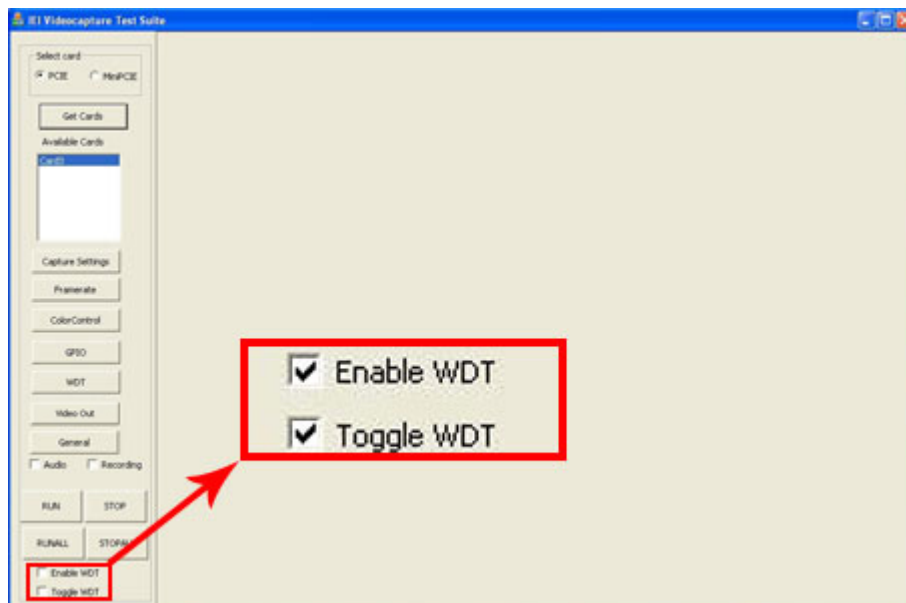

Figure 6-28: WDT Options for Multiple Cards
Step 11: In the main interface, check the Audio checkbox to capture audio. Check the Recording checkbox to record the video and save in AVI format (see **Figure 6-28**).
Step 13: To capture all channels from multiple capture cards, click the RUNALL button on the test suite interface (see **Figure 6-28**). Click the STOPALL button to stop capturing all channels.
To enable watchdog timer for multiple capture cards, check the checkboxes of the Enable WDT and/or Toggle WDT options on the test suite main interface (see **Figure 6-28**).